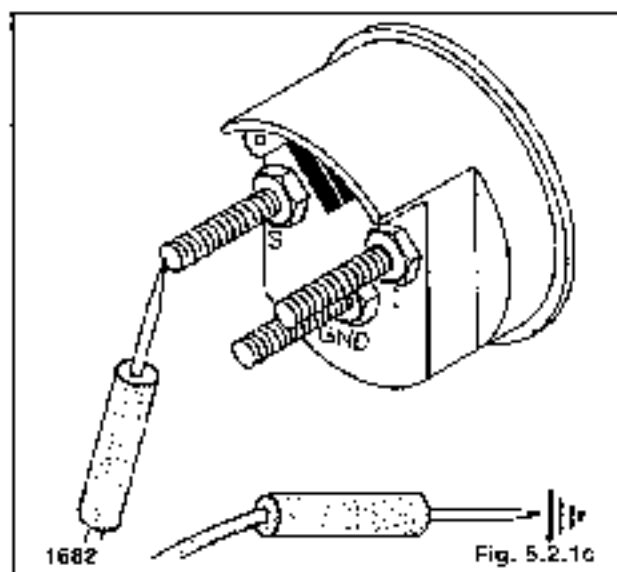

Fig. 5.2.1c
3. With the ignition off, connect one ohmmeter lead to the "S" terminal of the fuel gauge (Fig. 5.2.1c). Connect the other ohmmeter lead to a clear ground on the frame.